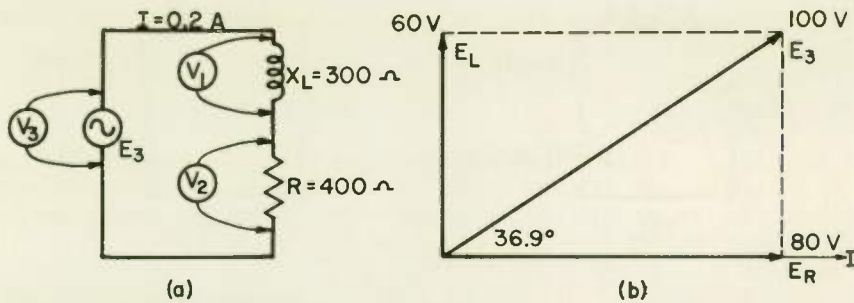

Fig. 30 Finding voltages in an RL series circuit.
7 VOLTAGES IN SERIES A-C CIRCUITS . . . The a-c voltage E_3 in Fig. 30(a) supplies 0.2 A to X_L and R in series. Our problem is to find the reading of each of the three voltmeters.
sum, since E_1 and E_2 are not in phase with each other. The phasor diagram is shown in Fig. 30(b). Since the current is the same in all parts of a series circuit, the current is used as the reference phasor in drawing phasor diagrams for series circuits.
Since the voltage across a resistance is in phase with the current, E_R is drawn in Fig. 30(b) in phase with I . Since the voltage across an inductor leads the current through the inductor by 90° , E_L is drawn to lead I by 90° (remember always that phasors revolve counterclockwise). Resultant phasor E_3 is the sum of phasors E_R and E_L , and it is equal to 100 V. Thus voltmeter V_3 reads 100 V. Figure 30(b) shows that the current I in the circuit lags the applied voltage E_3 by 36.9° .
2. Find the impedance of the circuit of Fig. 30(a). HINT: Use the formula $Z = E/I$.